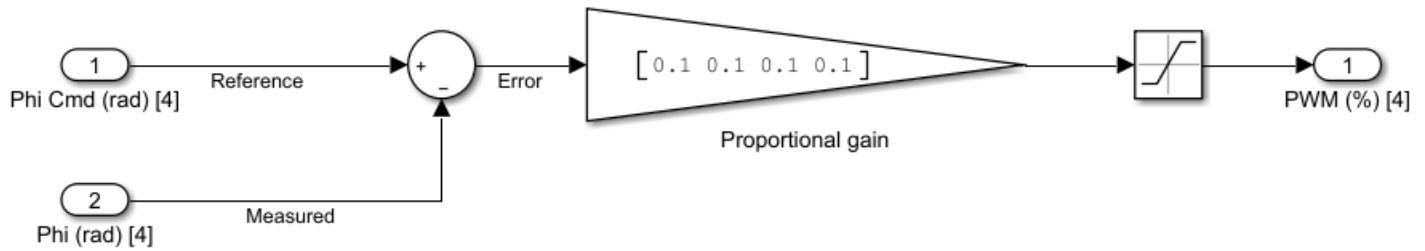

Figure 2.2 Proportional Controller
- Now that Simulink is configured correctly, you will need to build a proportional controller, so that you have a closed-loop feedback system. Open the Controller subsystem and connect the blocks according to Figure 2.2, ignoring the integrator, derivative and 3 input sum blocks. Also, ensure that the Cmd Select constant at the root level of your Simulink model is set to 1.